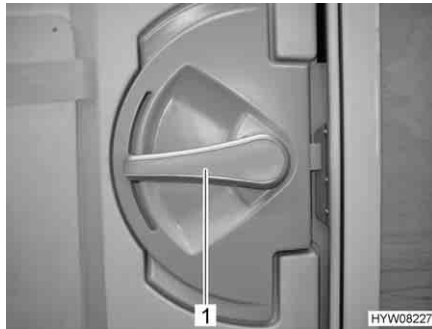

Fig. 27 Door lock of conversion door, inside
- Push the handle (Fig. 27,1) down.
- Turn the handle (Fig. 27,1) approx. 45° upward and leave it in this position.